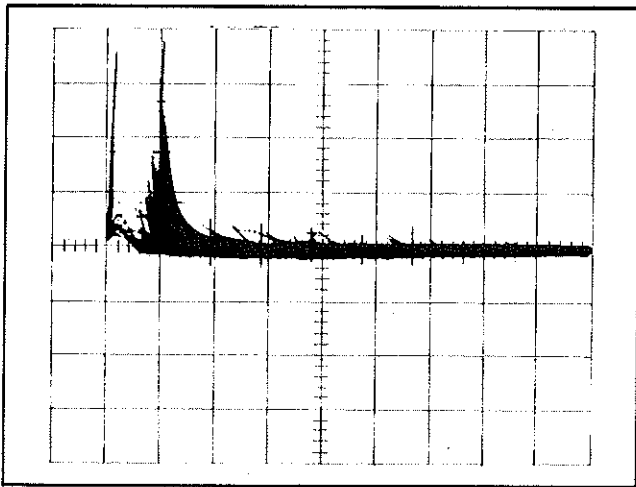
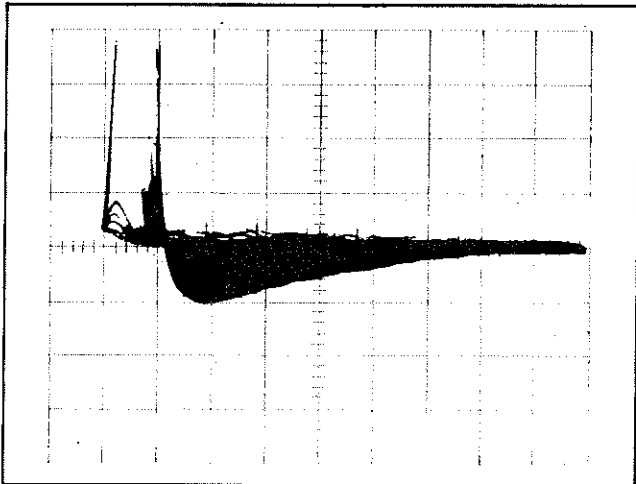

Figure 4-2a
Figure 4-2b
- a. The Pole/Zero is extremely critical for good high count rate resolution. See note 1 on page 6. Adjust the radiation source count rate between 2 kcps and 25 kcps. While observing the UNIPOLAR OUTPUT on the scope, adjust the Pole/Zero so that the trailing edge of the near-Gaussian pulse returns to the baseline with no over- or under-shoots. Figure 4-2a shows the correct setting of the Pole/Zero control, with Figure 4-2b and 4-2c showing under- and over-compensation for the preamplifier decay time constant. Notice some small amplitude signals with long decay times in Figure 4-2a. These are due to charge trapping in the detector and cannot be corrected by the Pole/Zero control.